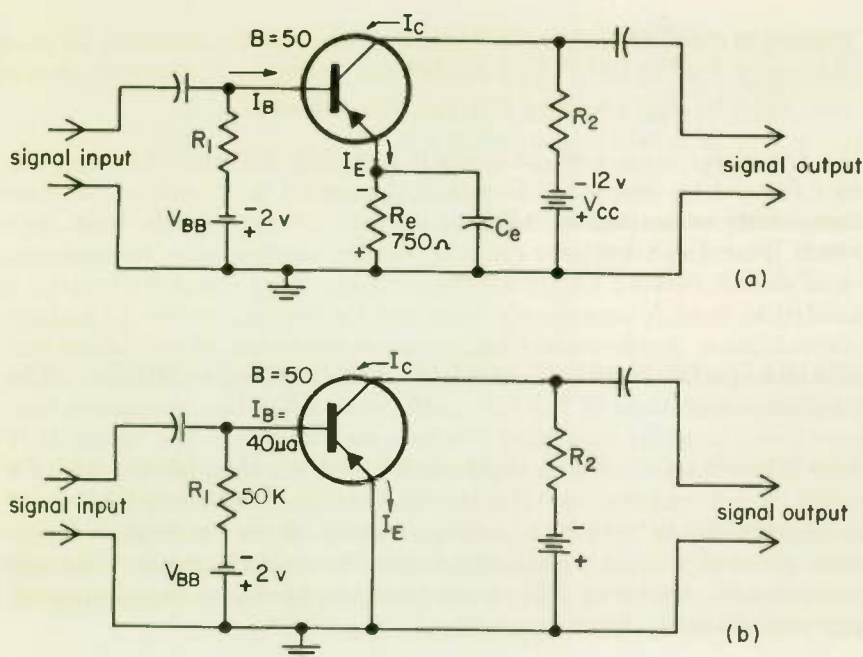
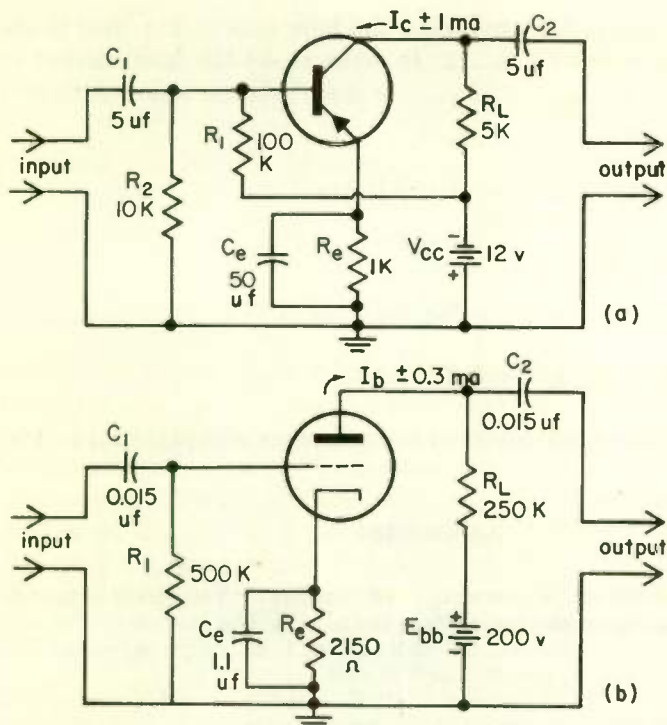
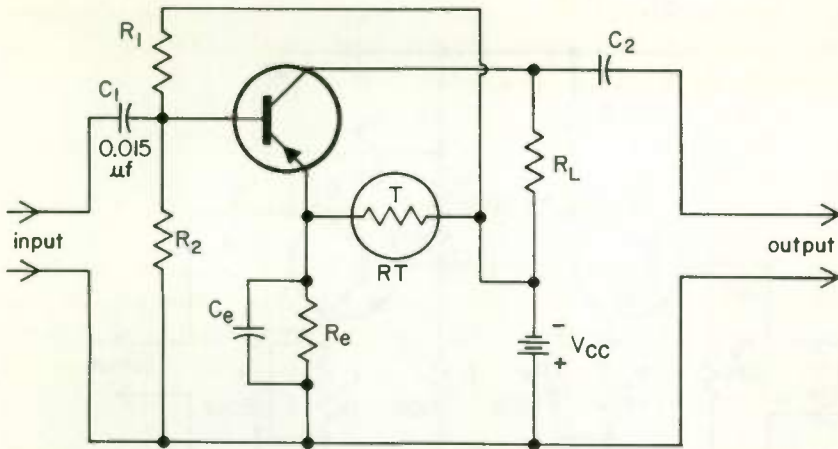
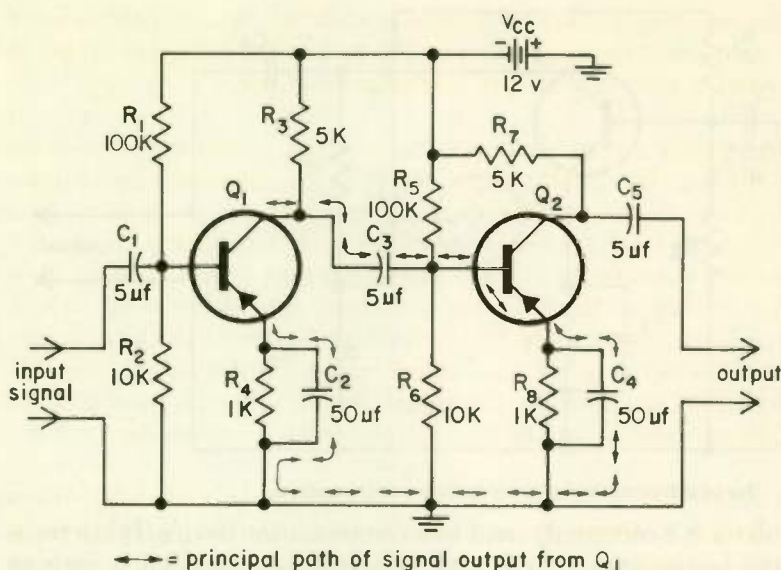

Fig. 7 Stabilization using emitter resistor.
Fig. 8 A transistor audio amplifier stage compared to an electron tube stage.
Fig. 10 Use of a thermistor for temperature compensation.
Fig. 12 Two-stage audio amplifier using capacitor (RC) coupling.
5 CURRENT FEEDBACK STABILIZATION . . . One of the simplest stabilization methods is the use of a resistor in series with the emitter, R_e in Fig. 7(a). This method is called *current feedback stabilization*. A bypass capacitor C_e is used across R_e to pass the signal so it will not be attenuated by R_e . Figure 7(b) shows the same circuit without any provision for temperature stabilization.
To see how R_e improves the stability, assume values for V_{BB} , R_1 , and β as shown in Fig. 7(b). For these values, you have already found from Problems 2 and 3 of Topic 3 that the value of I_C will vary from $2255 \mu\text{a}$ when I_{CBO} is $5 \mu\text{a}$, to $3530 \mu\text{a}$, when I_{CBO} is $30 \mu\text{a}$. We shall now add a 750-ohm resistor R_e in the emitter circuit in Fig. 7(a) and again calculate the variation in I_C .
1. Show that $17.6 \mu a$ is correct for I_B in Fig. 7(a) when I_{CBO} is $30 \mu a$, remembering that R_1 is 4500 ohms.
6 STABILIZATION WITH SINGLE VOLTAGE SOURCE... The stabilization method of Fig 7(a) works well only when a separate battery V_{BB} is used for supplying the bias, as is shown in the figure. If I_B were taken from the much higher voltage of V_{CC} through the use of a much larger resistor for R_1 , the temperature stabilization would be poor. However, by adding another resistor, R_2 in Fig. 8(a), it is possible to obtain good stabilization from a single battery. You will recognize the circuit of 8(a) as one that you have previously studied, and you should review its operation in Lesson 2404.
The reason the circuit of Fig. 7(a) does not give good stabilization when V_{BB} is high is that the voltage drop across R_1 is then high compared to the maximum voltage drop it is practical to have across R_e . That being the case, variations in voltage across R_e due to changes in leakage current have little effect on I_B , so that little stabilizing action occurs.
Figure 8(b) shows a tube circuit that corresponds to the transistor circuit of (a). In comparing the two circuits, notice in particular that the transistor stage requires far higher values for its capacitors than does the tube amplifier. This is because transistor circuits in general work with lower signal voltages and higher signal currents than do tube circuits. Or to say it another way, the impedances associated with transistor circuits are generally lower than those associated with tube circuits.
The purpose of all the capacitors in both diagrams of Fig. 8 is to pass the a-c or signal while blocking the d-c currents. To do this effectively, the signal voltage loss across the capacitor must be low compared to the amplitude of the signal voltage, so that the voltage loss is a small percentage of the signal. Since the voltage across a capacitor is given by $E_c = I \times X_c$, the higher the signal current, the greater the signal loss E_c will be. Also, if E_c is to be only a small percentage of the sig-
The purpose of the following questions is to review and improve your understanding of the circuit of Fig. 8(a) and to compare its operation with that of the tube circuit in (b).
2. The bias for the grid in Fig. 8(b) is obtained from the voltage drop across component _____ .
3. The voltage source for producing the base bias in Fig. 8(a) is obtained from component (a) _____. In order to set the bias current at the correct value, (b) _____ is used in conjunction with this voltage.
4. What is the purpose of R_1 in Fig. 8(b)? (a) _____
5. What is the purpose of R_2 in Fig. 8(a)? (a) _____
6. What resistors are involved in temperature stabilization in Fig. 8(a)? _____
A thermistor is a commonly used bias compensation device. It is a resistor whose resistance changes with temperature, decreasing with an increase in temperature. In Fig. 10 thermistor RT has been added to the stabilization circuit of Fig. 8(a) to further improve the circuit stability. With an increase in temperature, the resistance of RT drops, increasing the current through R_e and therefore the voltage drop across R_e . Without RT , the circuit will only reduce the rise in I_c with temperature increase. It cannot eliminate the rise in I_c because the reduction in I_B is brought about by an increased voltage drop across R_e , which requires an increase in I_c . By using RT , the extra current needed through R_e to reduce I_B can come directly from V_{cc} through RT , without the necessity of I_c increasing.
- 9 CASCADING STAGES . . . Each stage in the two-stage audio amplifier shown in Fig. 12 is identical to the amplifier stage of Fig. 8(a). Capacitor (or RC) coupling is used between the stages, the signal output of Q_1 being coupled to the input of Q_2 by means of C_3 , as shown by the double-headed arrows. Except for the extra circuitry required for temperature stabilization and the use of different component values, Fig. 12 appears identical to a two-stage vacuum tube audio amplifier using capacitive coupling. However, it is important to note certain differences in operation.
Instead of seeing a very high impedance, which would be the case for a vacuum tube, the signal coming into Q_2 in Fig. 12 encounters a quite low resistance, perhaps 1000 ohms, between base and emitter. As a result the base-emitter resistance offers little opposition to current flow, so that the strength of the signal current to the base of Q_2 is primarily limited by the collector-to-emitter impedance of Q_1 , which will be perhaps 50,000 ohms. Since the signal current in the collector circuit of Q_2 is equal to the base signal current multiplied by the current gain (β) of Q_2 , we want the signal current into the base of Q_2 to be as high as possible for the best output from the amplifier.
From another point of view, since the input to a transistor draws signal current, it draws power from the signal source. A transistor is not a power amplifier, and the greatest output is obtained by getting the maximum possible signal power into the input, which occurs when the input signal current is highest. You will remember that maximum power is transferred from a source to a load when the impedance of the load is equal to the impedance of the source. In Fig. 12, Q_1 is a signal source feeding the base of Q_2 , which is the load. Since the collector-emitter impedance (called the output impedance) of Q_1 is about 50,000 ohms, the base-emitter resistance of Q_2 should also be about 50,000 ohms for the best gain from the amplifier. Since, in fact, the base-emitter resistance is only about 1000 ohms, the amplifying efficiency of the simple RC-coupled amplifier of Fig. 12 is poor. Nevertheless, the circuit is widely used because of its simplicity.
1. Figure 12 shows all the signal output from Q_1 going to the base of Q_2 . Actually, some of the signal will follow other paths, and thus be lost. Name those paths. _____
3. If a smaller capacitor than shown is used for C_3 in Fig. 12, the overall gain of the amplifier will be reduced. Explain why.